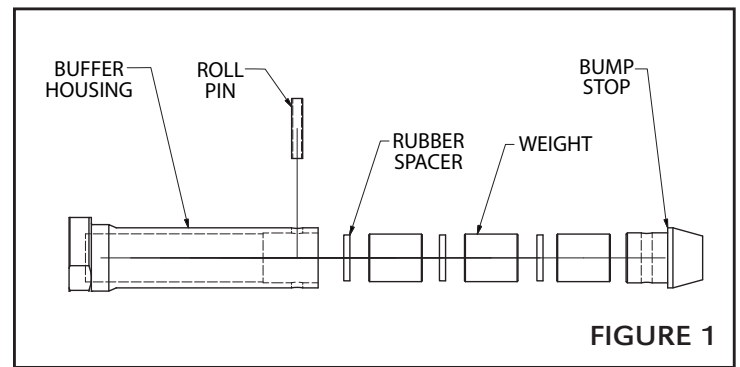
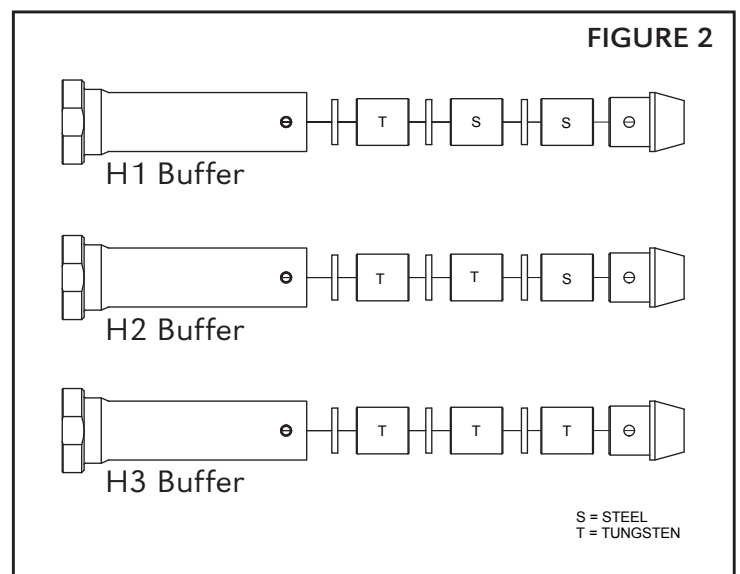

FIGURE 1
FIGURE 2
To change the Geissele Automatics H1 Buffer assembly to the heavier H2 or H3 buffer setup, you will need to disassemble and re-assemble the buffer replacing the steel weights with the correct number of tungsten weights (FIGURE 2).
4. Re-assembly can begin by installing a rubber spacer in the bottom of the buffer housing then alternate with a weight and spacer (FIGURE 1). The correct number of tungsten weights should be used to achieve the desired buffer configuration (FIGURE 2).